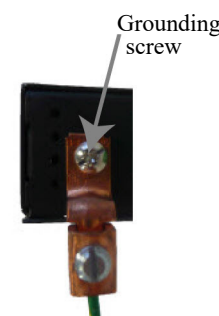

Figure 1
4. Connect the power cord strain relief, if desired. (Figure 1)